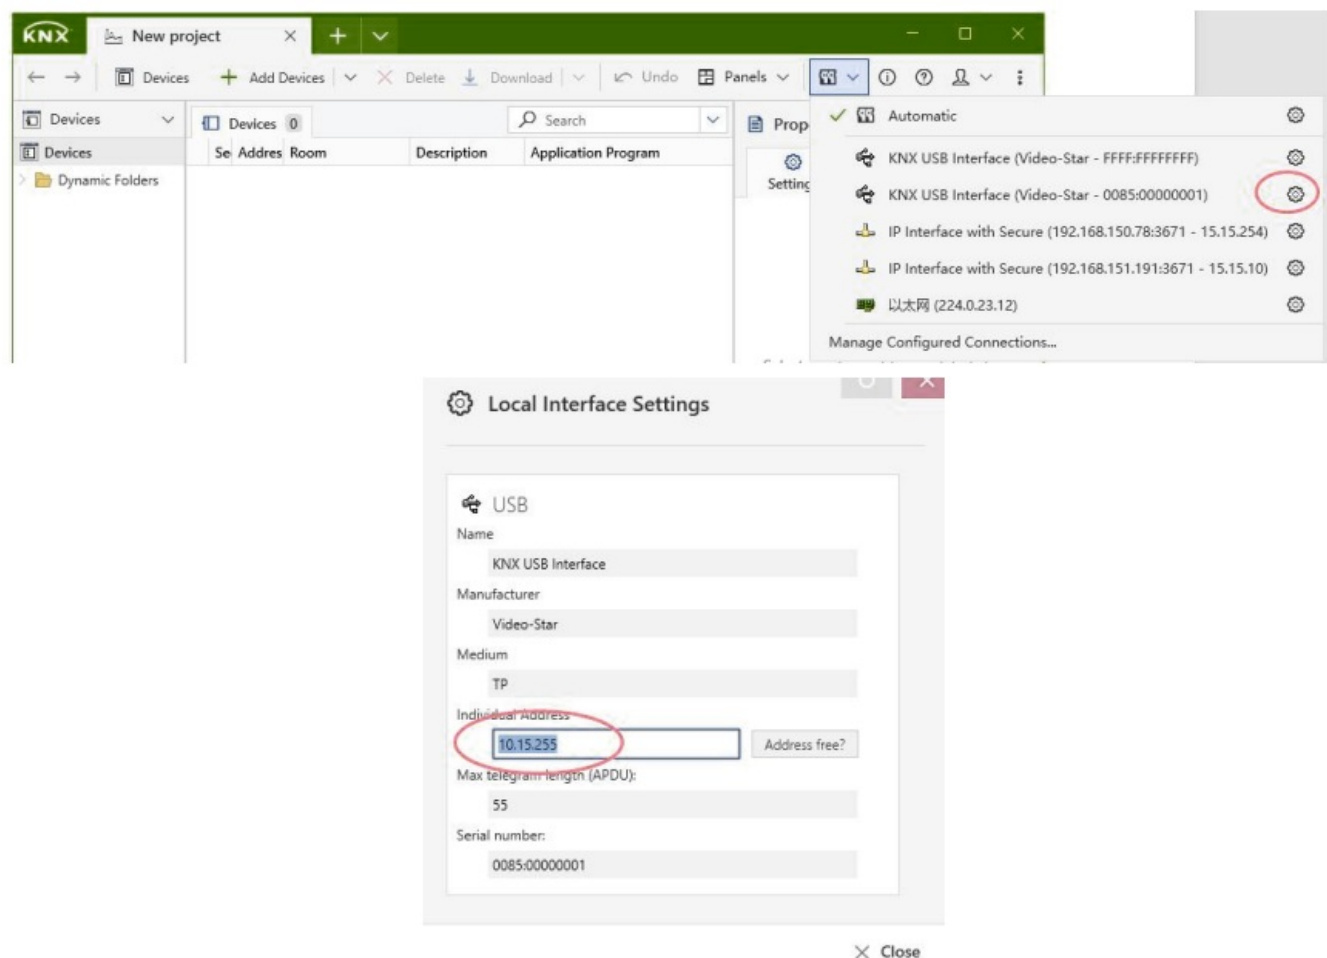

Fig.4.1 Bus connection window for ETS6–Individual address assignment (2)
- In general, in the KNX topology system, it is necessary to set the correct individual address for the device according to the topology location of the device in the ETS bus connection window in Figure 4.1.